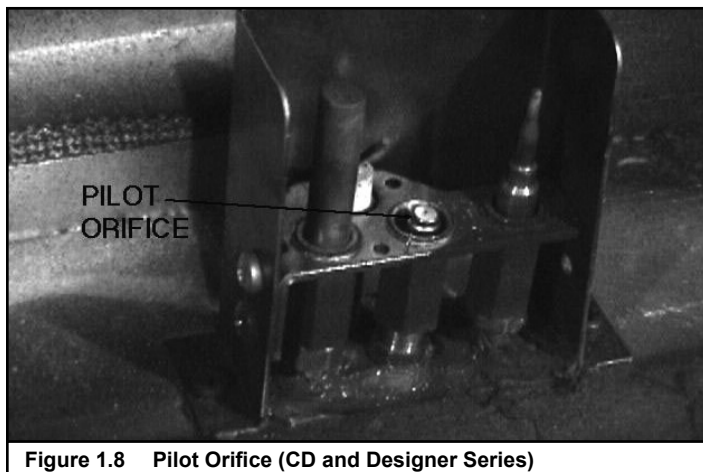

Figure 1.8 Pilot Orifice (CD and Designer Series)
- The orifice is inside the base of the pilot assembly. See Figure 1.8.